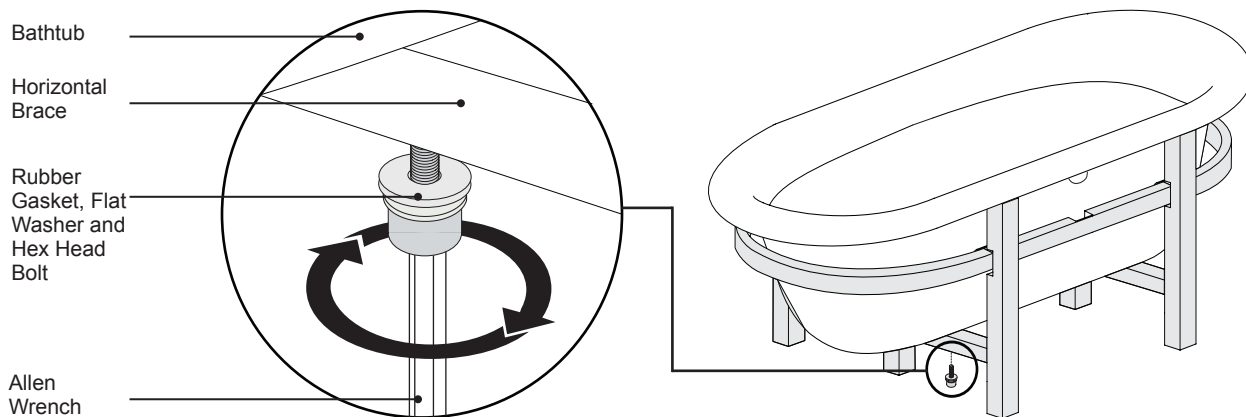

Figure 18. Securing the Bathtub
- 2 Align the mounting holes of the horizontal braces with the mounting holes on the bathtub (Figure 18).
- 3 Insert and tighten one (1) rubber gasket, one (1) flat washer and one (1) hex head bolt into the mounting point on the bathtub (Figure 18 - Inset). Use an Allen wrench (supplied) to tighten the hardware.